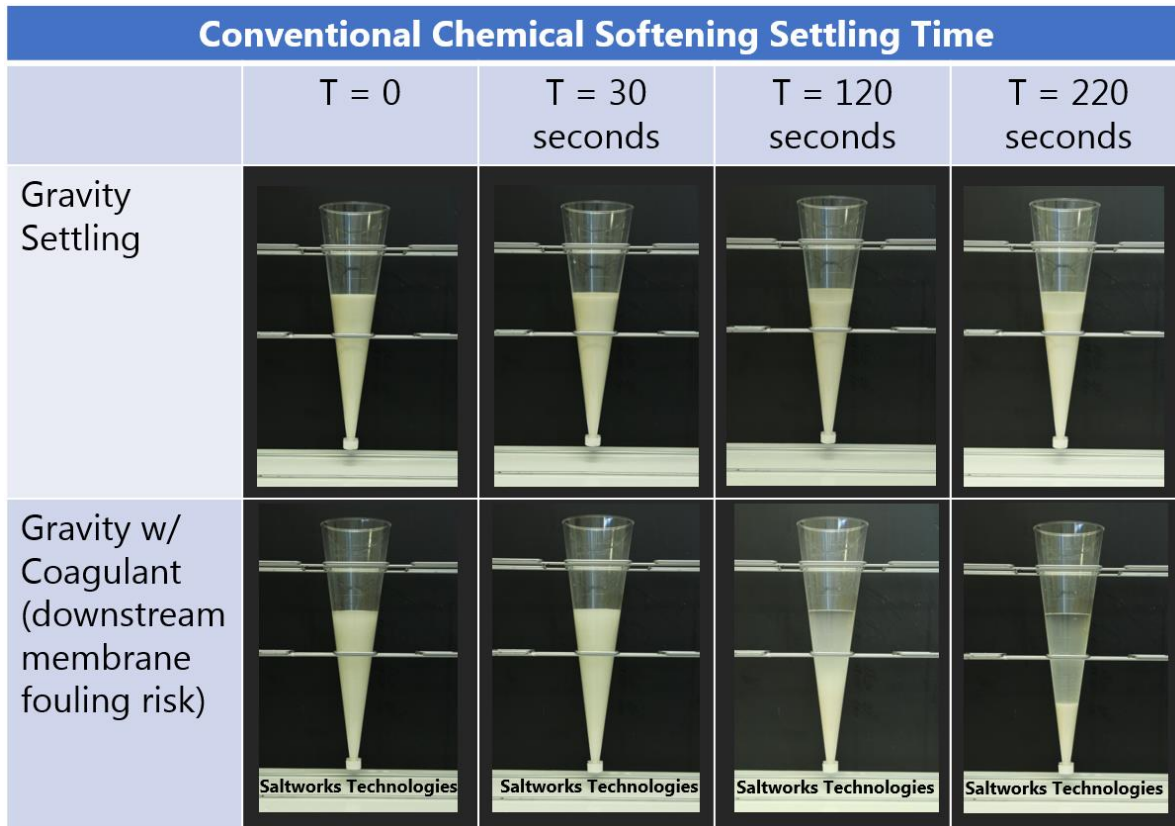

Figure 3: Conventional Chemical Softening Settling Time with and without Coagulant/Flocculant addition, by Saltworks
- **Fouling coagulant chemicals are added:** due to the poor settling nature of chemical softened solids, large clarifiers are required. The addition of flocculants/coagulants is often used to help decrease the size of clarifiers needed. See Figure 3 timeline photos of chemical softening solids settling without and with the aid of flocculants/coagulants. These specialty chemicals improve the settling of the solids by approximately 3X, reducing clarifier size by roughly 3X. However, iron